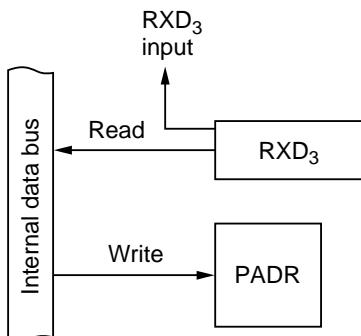

Figure 10-71 RXD3 Input (Modes 1, 2, 4, 6, and 7)
**(9) RXD3 Input (PA3; Modes 1, 2, 4, 6, and 7):** Figure 10-71 shows a block diagram illustrating the RXD3 input function. Table 10-54 indicates register read/write data. When PA3 is used for RXD3 input, the value written in PADR is ignored, but PADR can be read to monitor the level at the RXD3 pin.